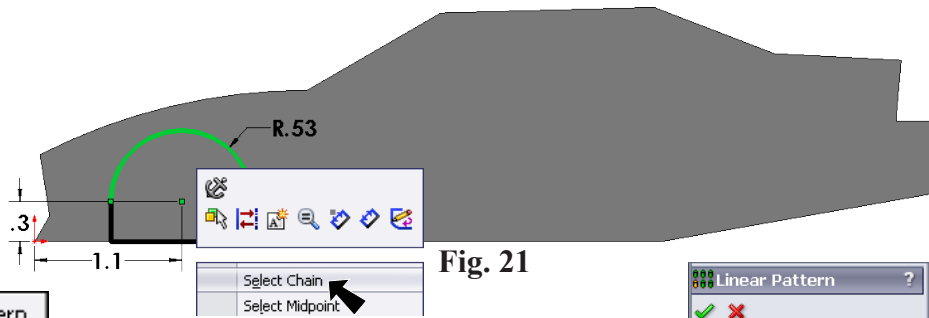

Fig. 21
Step 2. Right click the arc and click Select Chain from the menu, Fig. 21.